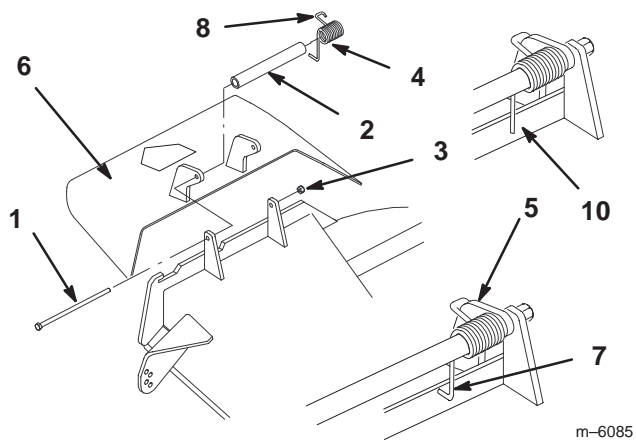

Figure 38
The grass deflector spring will have either an **L** end or a straight end (Fig. 38).
Note: Make sure the **L** or the straight end of spring is installed behind deck edge before installing the bolt as shown in figure 38.
2. Install bolt and nut. Place **J** hook end of spring around grass deflector (Fig. 38).